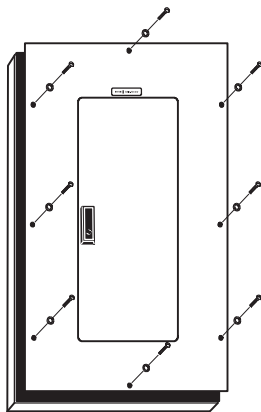

Figure 18. Version 1 Bypass Cabinet Front Cover
5. Remove the bypass cabinet front cover (see Figure 18).